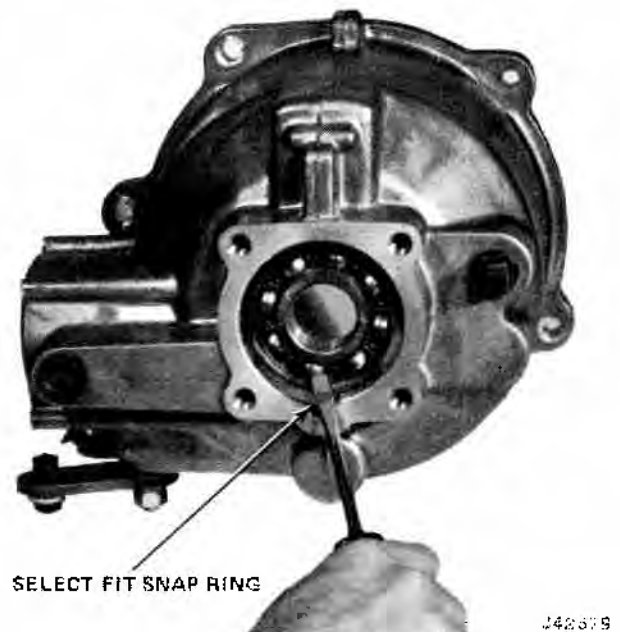

Fig. 8-28 Removing Rear Annular Bearing Snap Ring
- (1) Remove rear snap ring and annular bearing (fig. 8-28). The rear snap ring is select-fit and available in thickness ranges of 0.086 to 0.088 inch, 0.089 to 0.091 inch, 0.092 to 0.094 inch, 0.095 to 0.097 inch, and 0.098 to 0.100 inch. The front snap ring should be 0.086 to 0.088 inch.
- (2) Install front snap ring and bearing, then install thickest rear snap ring that will seat completely.